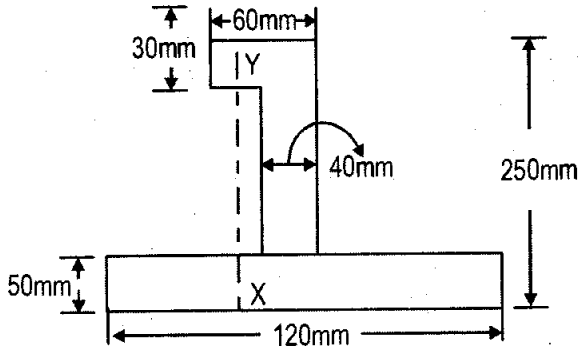

Figure 3
3. (a) Calculate the moment of inertia of the section as shown in figure 3 about centroidal 'YY' axis : [10]